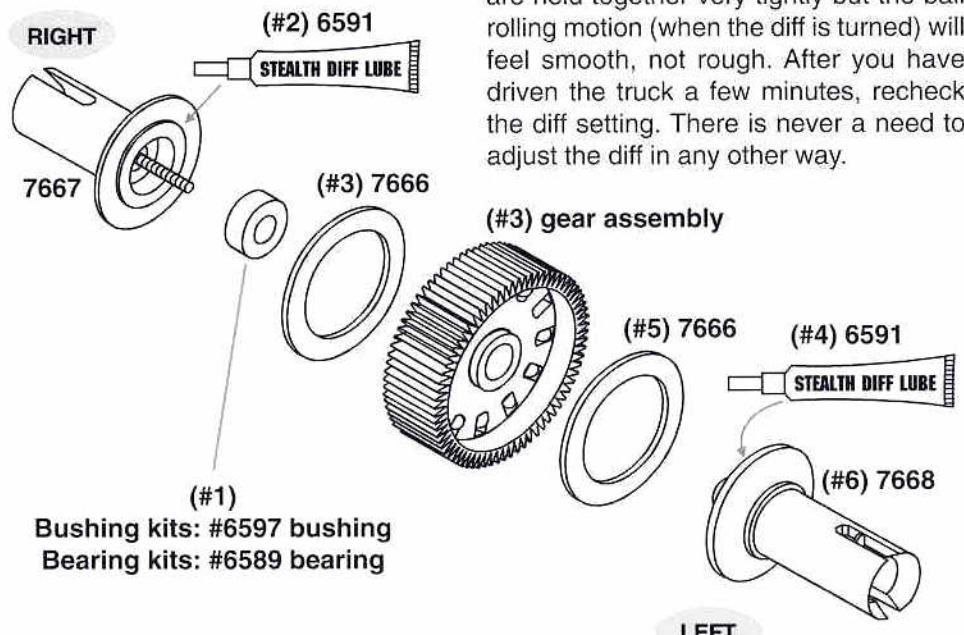

Fig. 46
□ **Figs. 46, 65 & 66** (1) Remove one #7666 diff drive ring from bag A. Remove your 5/32" x 5/16" #6589 bearing or #6597 bushing and install it into the right outdrive hub. (2) Add a light coat of #6591 diff lube to right hub where shown. (3) Place a #7666 dif drive ring and then the gear assembly on the hub. (4) Add a light coat of #6951 diff lube to left hub where shown. (5) Place a #7666 dif drive ring on the hub. (6) Push the #7668 left hub over the diff bolt and center the hub.